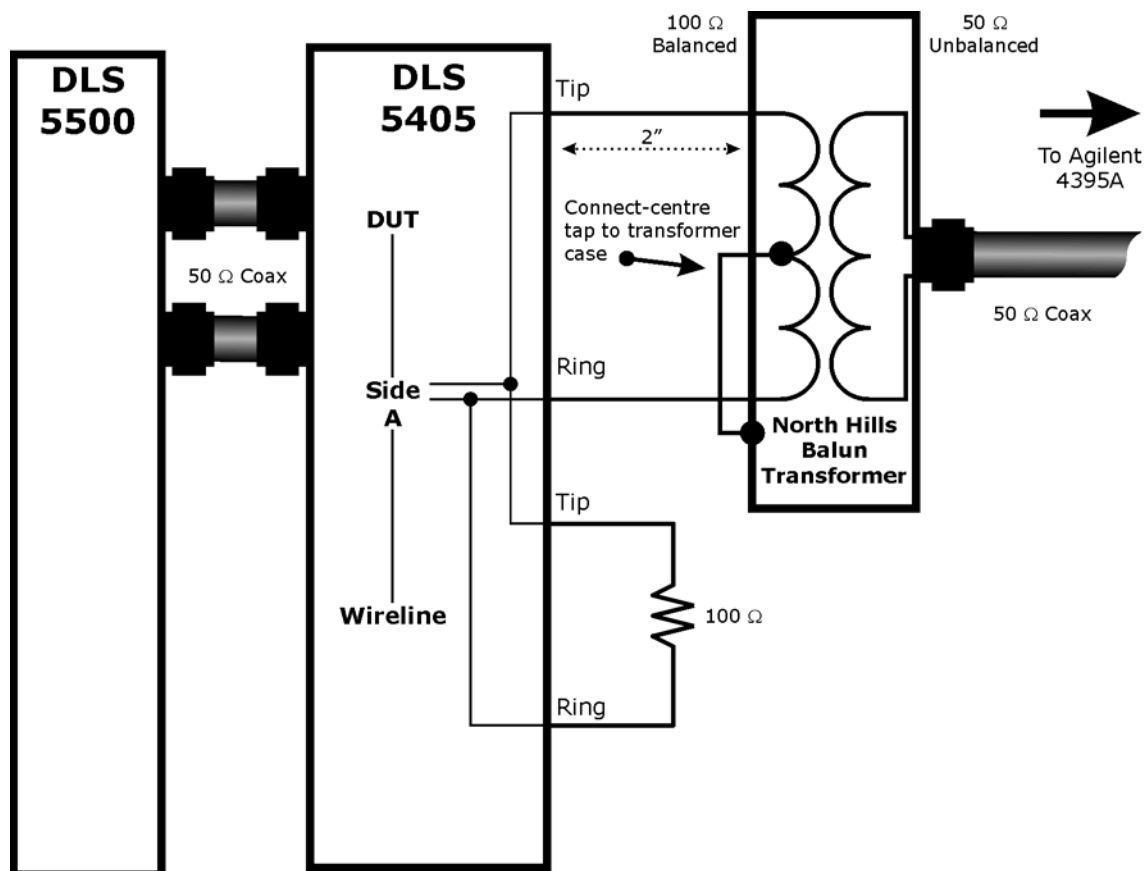

Figure 2-6 Measuring electrical characteristics
Figure 2-6 illustrates the recommended setup for measuring noise profiles from the DLS 5405 High Bandwidth Noise Injection Unit. Note the following points when setting up for measurements:
- 2) The calibration load normally consists of two nominally 100 Ω loads in parallel (see *Figure 2-6 "Measuring electrical characteristics"* on page 2-6). By definition, the output power is the power in ONE of these resistors.